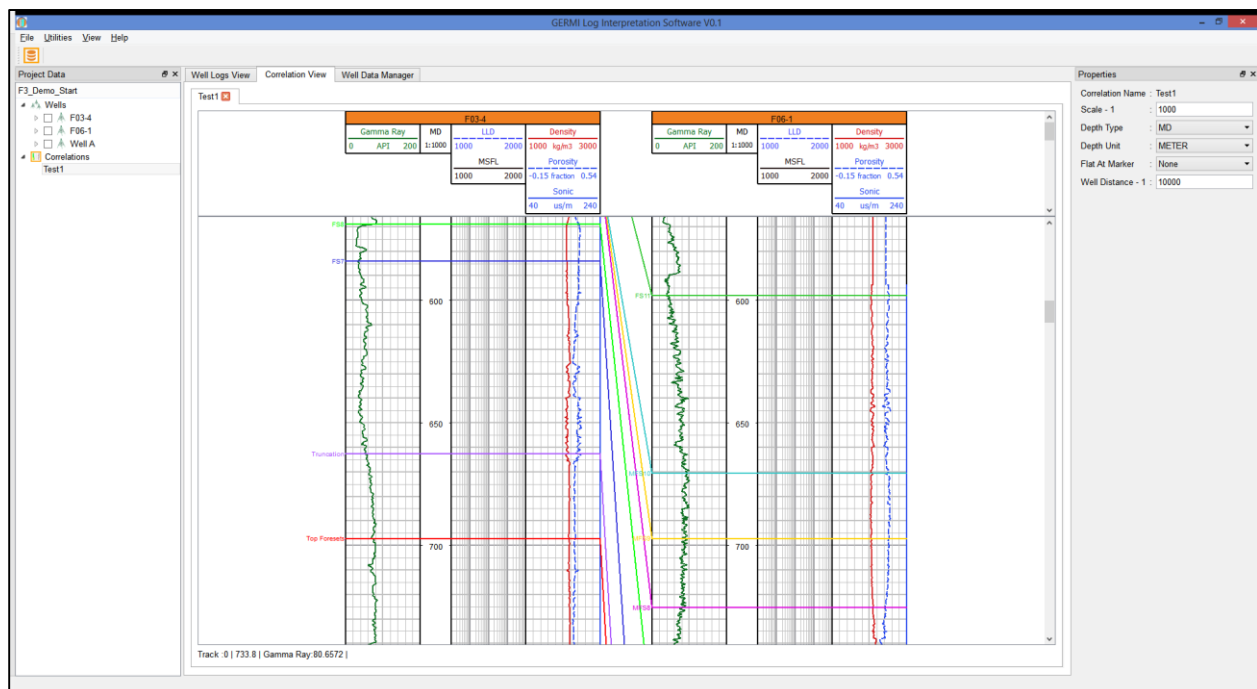

Figure 5.7 Wells Correlation view.
Step 6: After that click on “Ok” button to display the Well correlation as shown in figure 5.7.